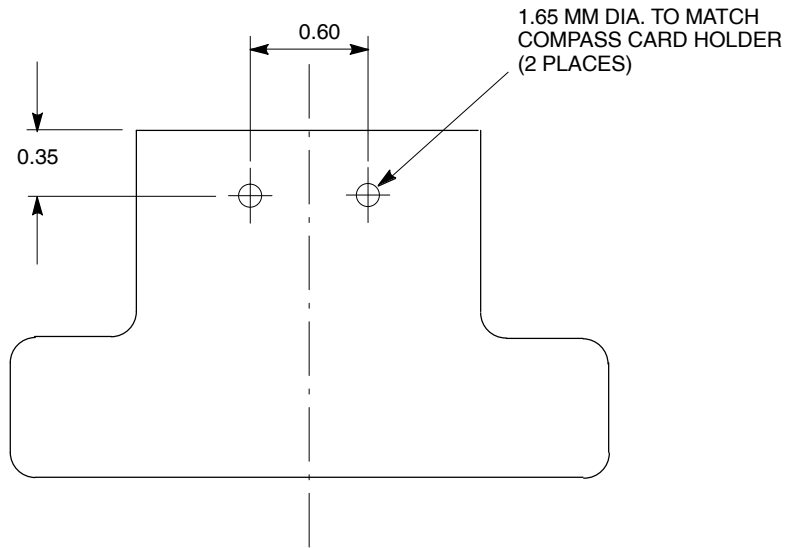
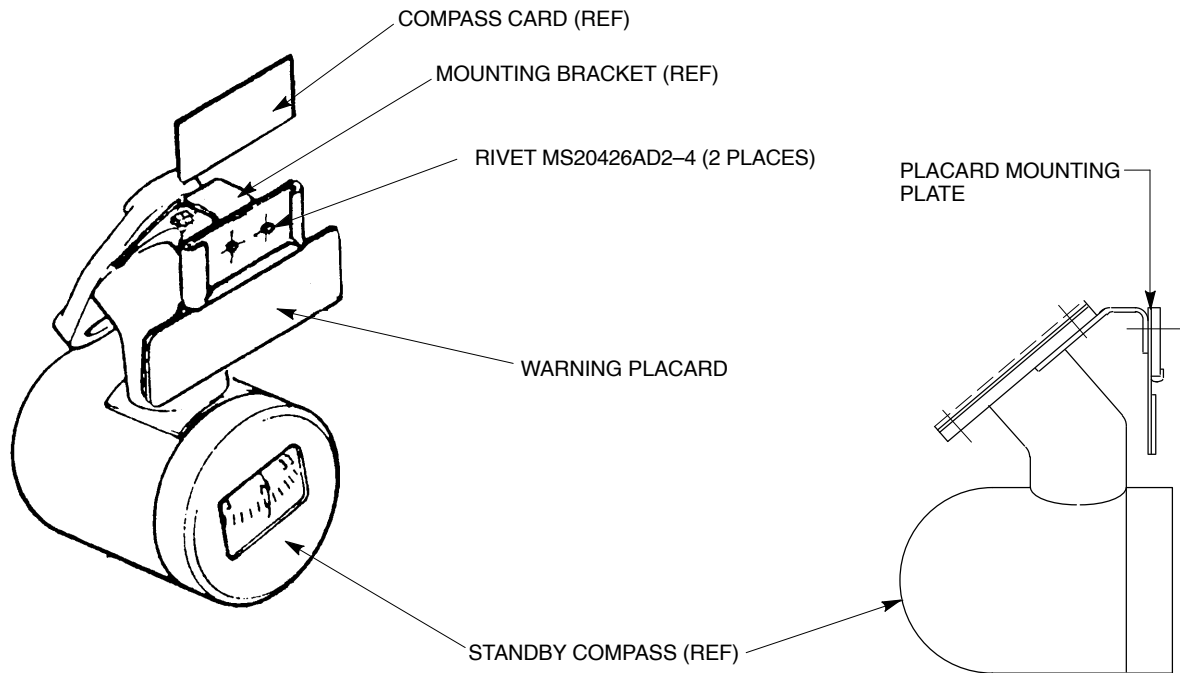

Figure 1 Placard Mounting Plate Pattern
Figure 2 Placard Mounting Plate Installation
- (1) Remove both RH and LH Sunvisor Assemblies PN 1/N–10–800 and 1/N–10–801 by drilling out five rivets on each pivot plate. Clean up all swarf and rivet tails.
- (2) Remove the existing standby compass warning placard (Ref SB ANMD–34–5).
- (3) Install Warning Placard PN 1/N–00–337 on standby compass placard mounting plate.
- (4) If a placard mounting plate is not existing, remove the compass correction card and card holder from the mounting bracket and manufacture a placard mounting plate as shown in Figure 1. Position the placard mounting plate between the compass card holder and the mounting bracket and rivet in position using two MS20426AD2–4 rivets (Ref Figure 2). Apply the placard to the placard mounting plate and refit the compass card.
- (5) Perform compass swing as per MM Chap 34–24–00.